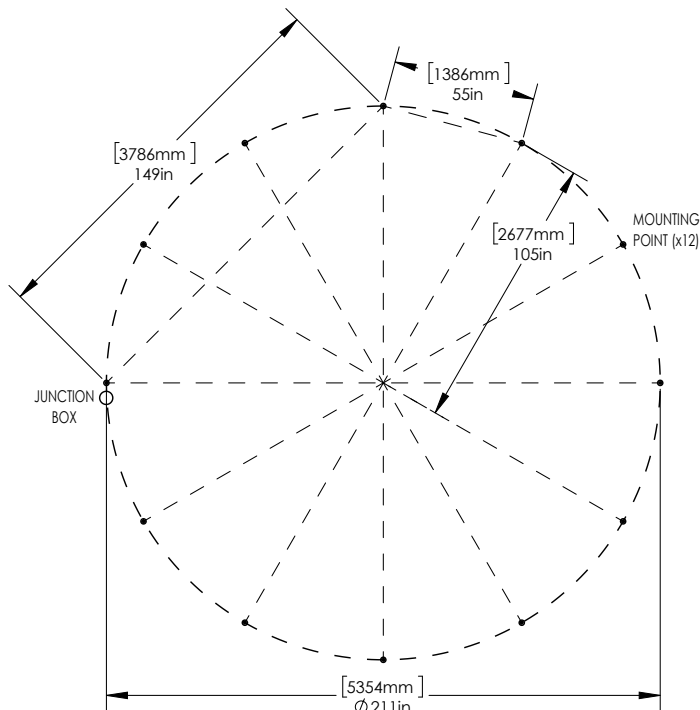

FIG 1
1. Using fig 1 as a guide, mount the couplers (x6) to the ceiling using appropriate fasteners (not included) according to the structure of the ceiling